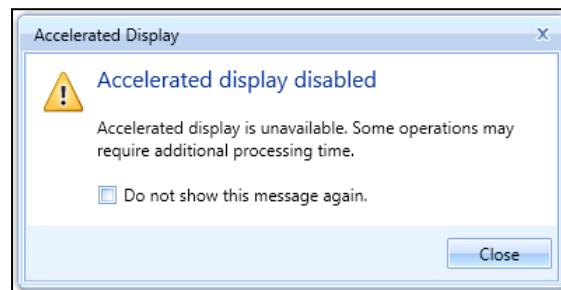

Figure 1. Accelerated Display Warning
| Figure 1. Accelerated Display Warning | 9 |
2. If accelerated display is unavailable on the host platform where AEDT is launched, the following warning message will be displayed (Figure 1).